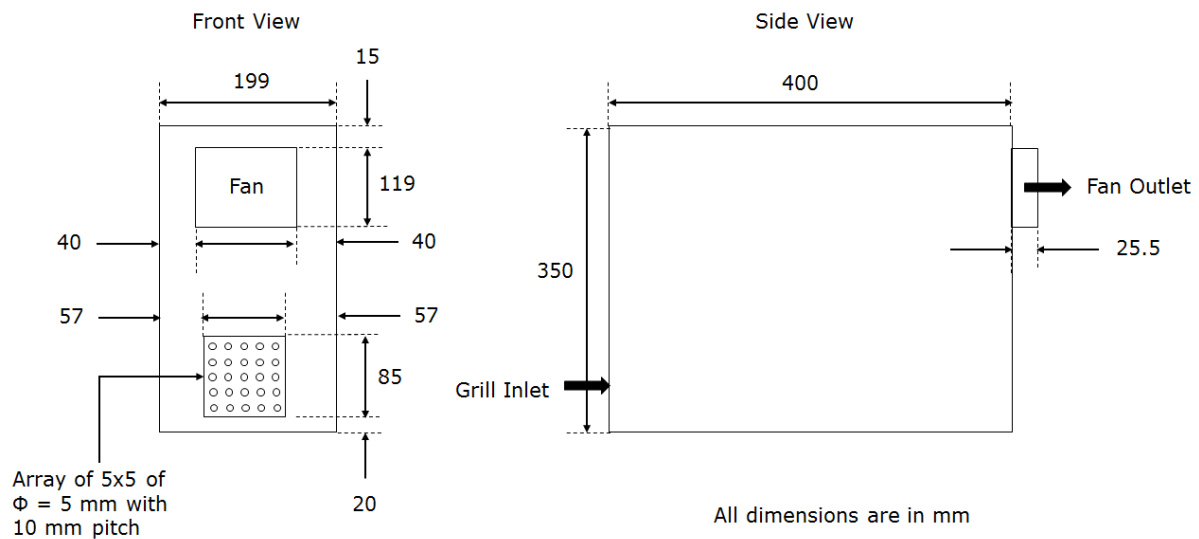

Figure 2: Cabinet geometry details
Details of cabinet geometry are given in Figure 2.
3. Move fan geometry to its correct location as shown in Figure 2